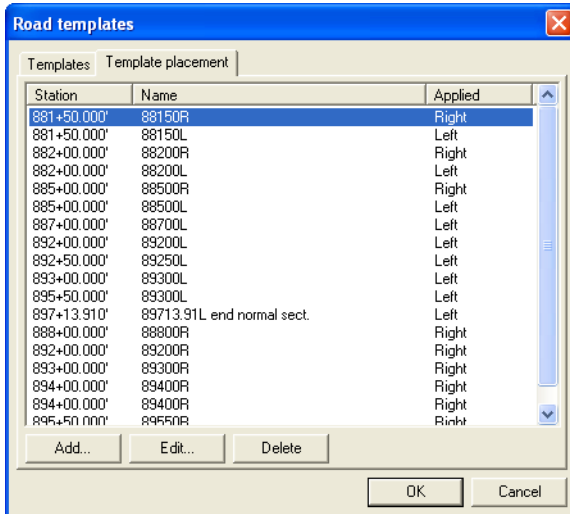

Figure 6-43. Road Templates – Template Placement Tab
The *Templates placement* tab displays the following information about the template used at each station (Figure 6-43):
1. To delete a template placement, highlight the desired template placement on the *Road template placement* dialog box (Figure 6-43 on page 6-34) and click **Delete**.